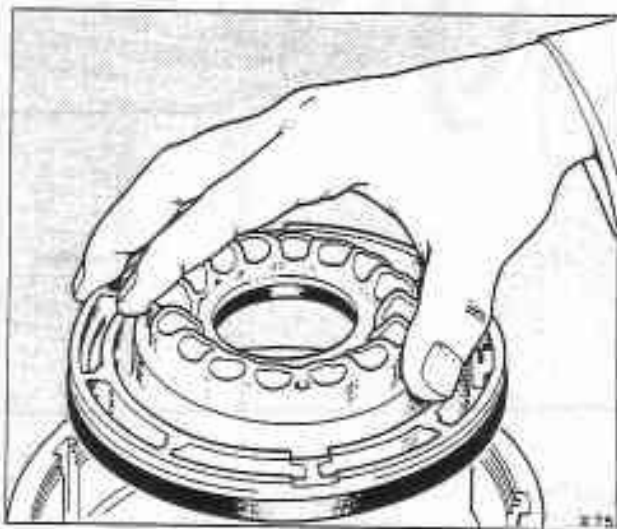

Fig. T19-6 Removing the forward clutch piston
7. Remove the piston from the clutch housing (see fig. T19-6).